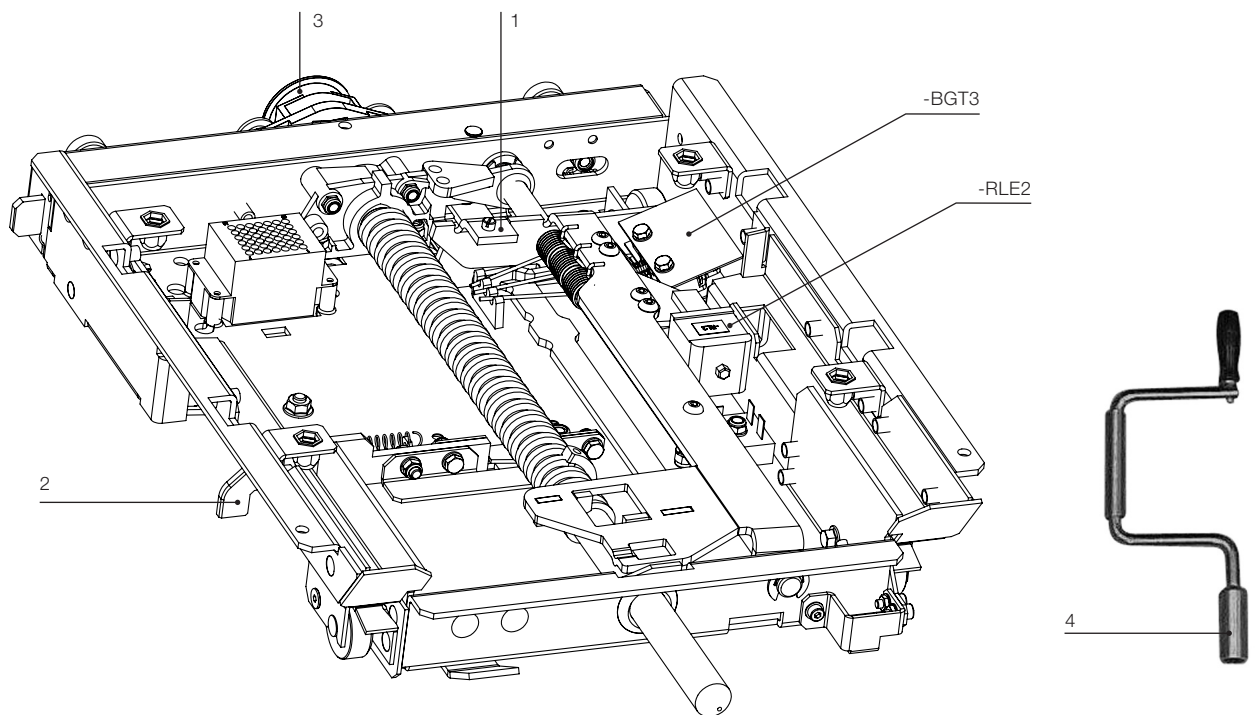

Fig. 12a - Locking devices on withdrawable truck.
- the jaw-type input and output isolating contacts (122)
- a mechanical operation counter which indicates the number of operations carried out by the contactor (122)
- a manual emergency opening device even when energised with medium voltage (125)
- Electric lock which prevents the contactor being closed when the truck is not in the “racked-in” (200 mm), “test” (47.5 mm) and “racked-out” (0 mm) positions (-BGT3) (fig. 12a).
- Mechanical lock which prevents the contactor being racked-in and out when it is closed, and contactor closing when the truck is not in the “racked-in”, “test” and “racked-out” positions (1) (fig. 12a).
- Locking electromagnet on the contactor truck which, when there is no voltage, prevents racking-in or racking-out (-RL2) (fig. 12a).
- Mechanical lock which prevents contactor racking-in if the enclosure door is not closed (requires a reciprocal interlock in the fixed part) (126).
- Mechanical lock for the “test” position (2) (fig. 12a).
- Lock for different currents (5) (fig. 12a).